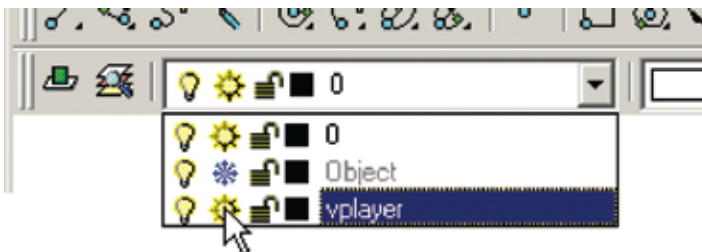

Figure 12.14
- Next to Vplayer, click the snowflake icon. It turns to a sun icon. This thaws the frozen layer and makes it visible. See Figure 12.14.